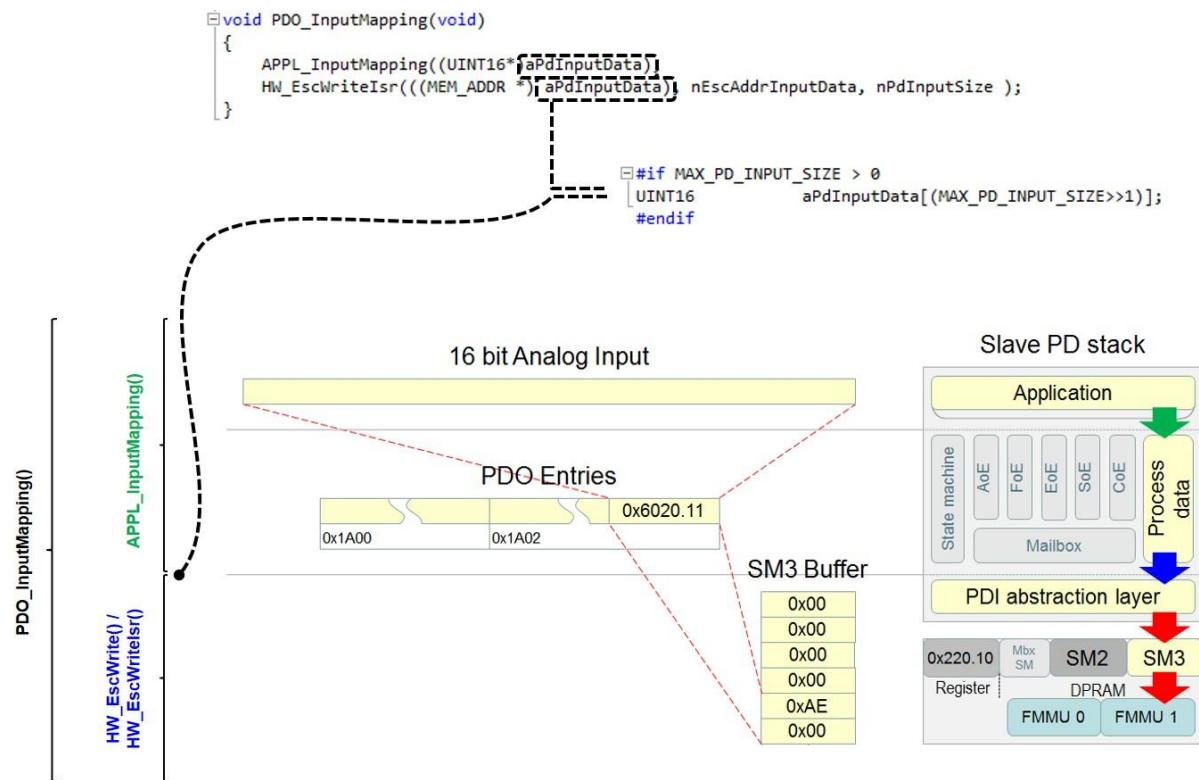

Figure 7: EL9800 Application Input Mapping
3. PDO\_InputMapping() : handles the data from the slave to the master, e.g. EL9800 application, Figure 7)